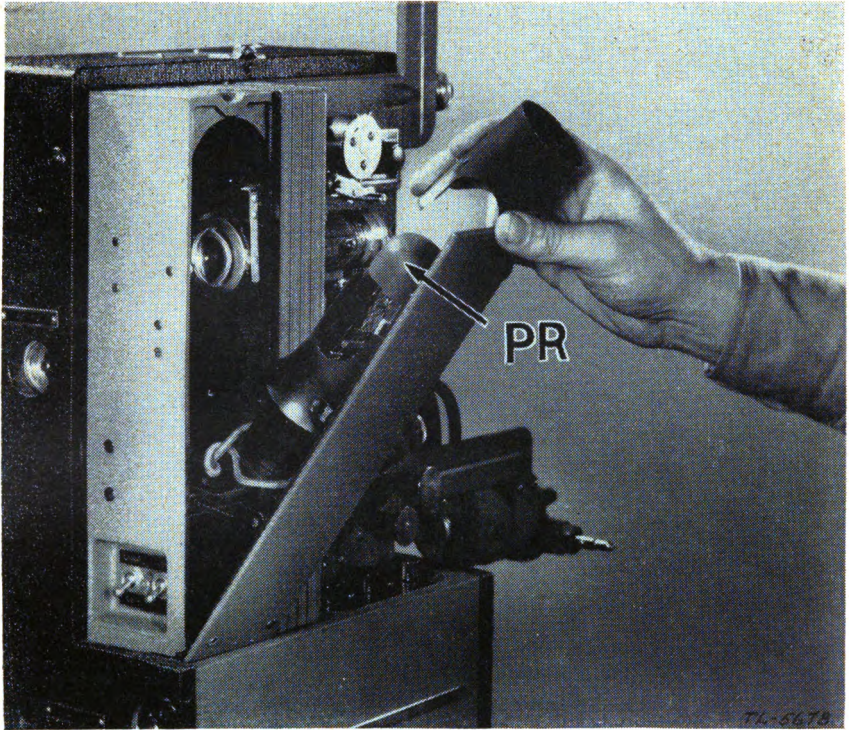

FIGURE 66.—Removing R. C. A. projection lamp.
*d. R. C. A.*—(1) To replace the projector lamp, place finger in groove at top of lamp house (fig. 66) and pull top of lamp house door outward. Slip off the metal shield and unscrew the old lamp. Replace with new lamp.